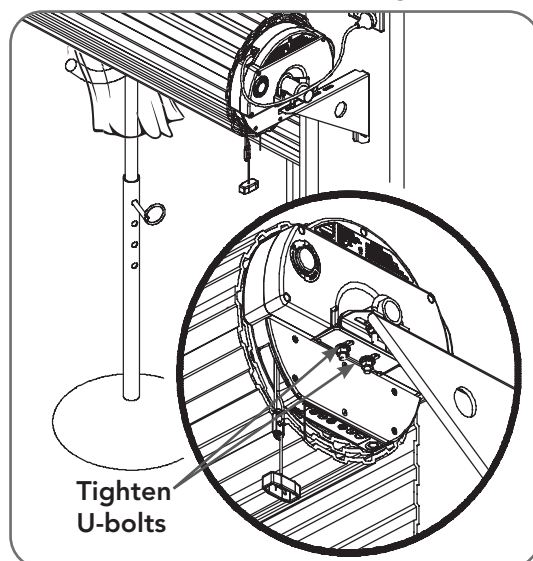

Fig. 6.8
- Refit the U-bolt and nuts and tighten **(Fig 6.8)**.